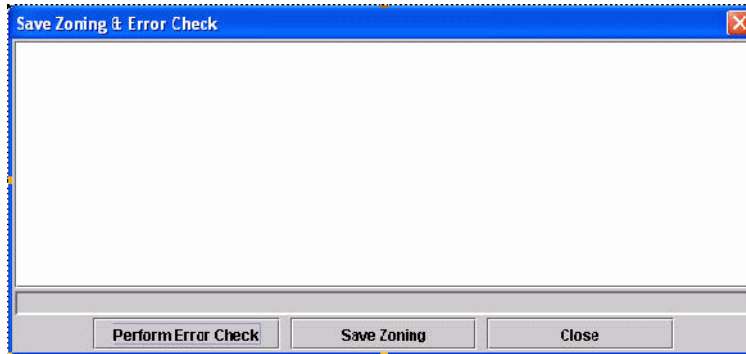

Figure 7-27 Save Zoning & Error Check window
18. From the Save Zoning and Error Check dialog box (Figure 7-27 on page 193), select **Perform Error Check**.